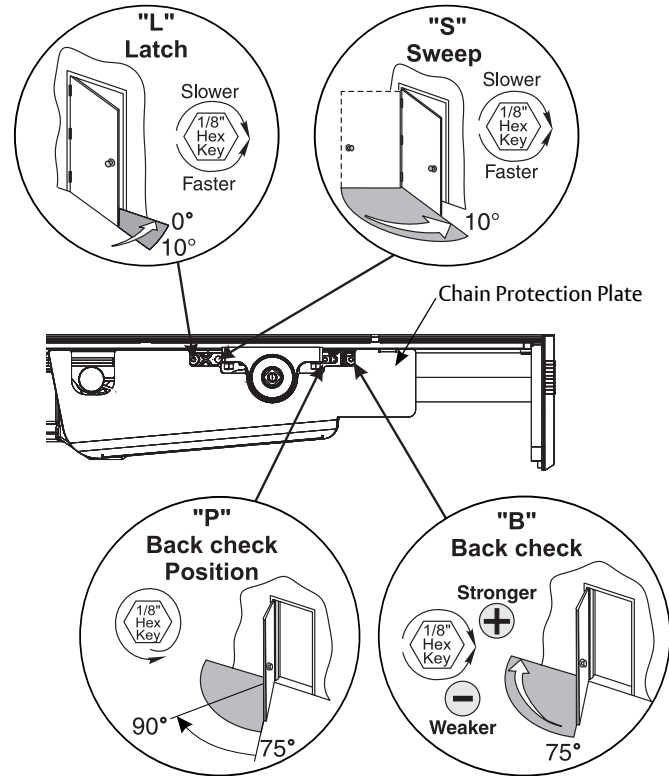

Figure 25 View of Left Hand operator from ceiling looking down
- Chain protection plate cutouts allow access to valves. Use hex wrench to make adjustments. (Figure 25)
1. Closing Speed Controls (Figure 25)
2. Opening Cycle (Figure 25)